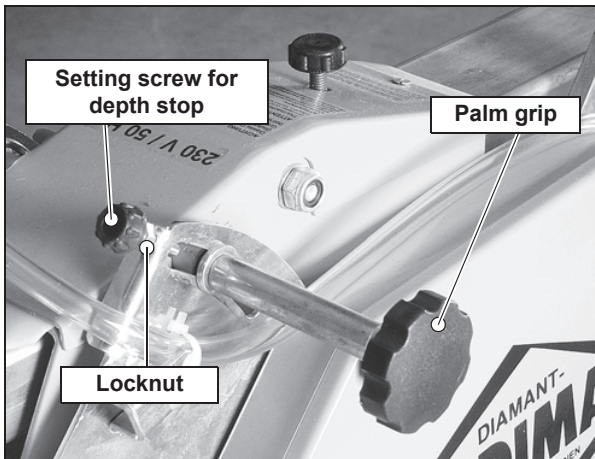

Fig. 3.17 Setting the depth stop
1. Loosen the palm grip (fig. 3.17) at the swivel-joint cutting arm.
3. Use the setting screw and locknut (fig. 3.17) to secure the depth stop.